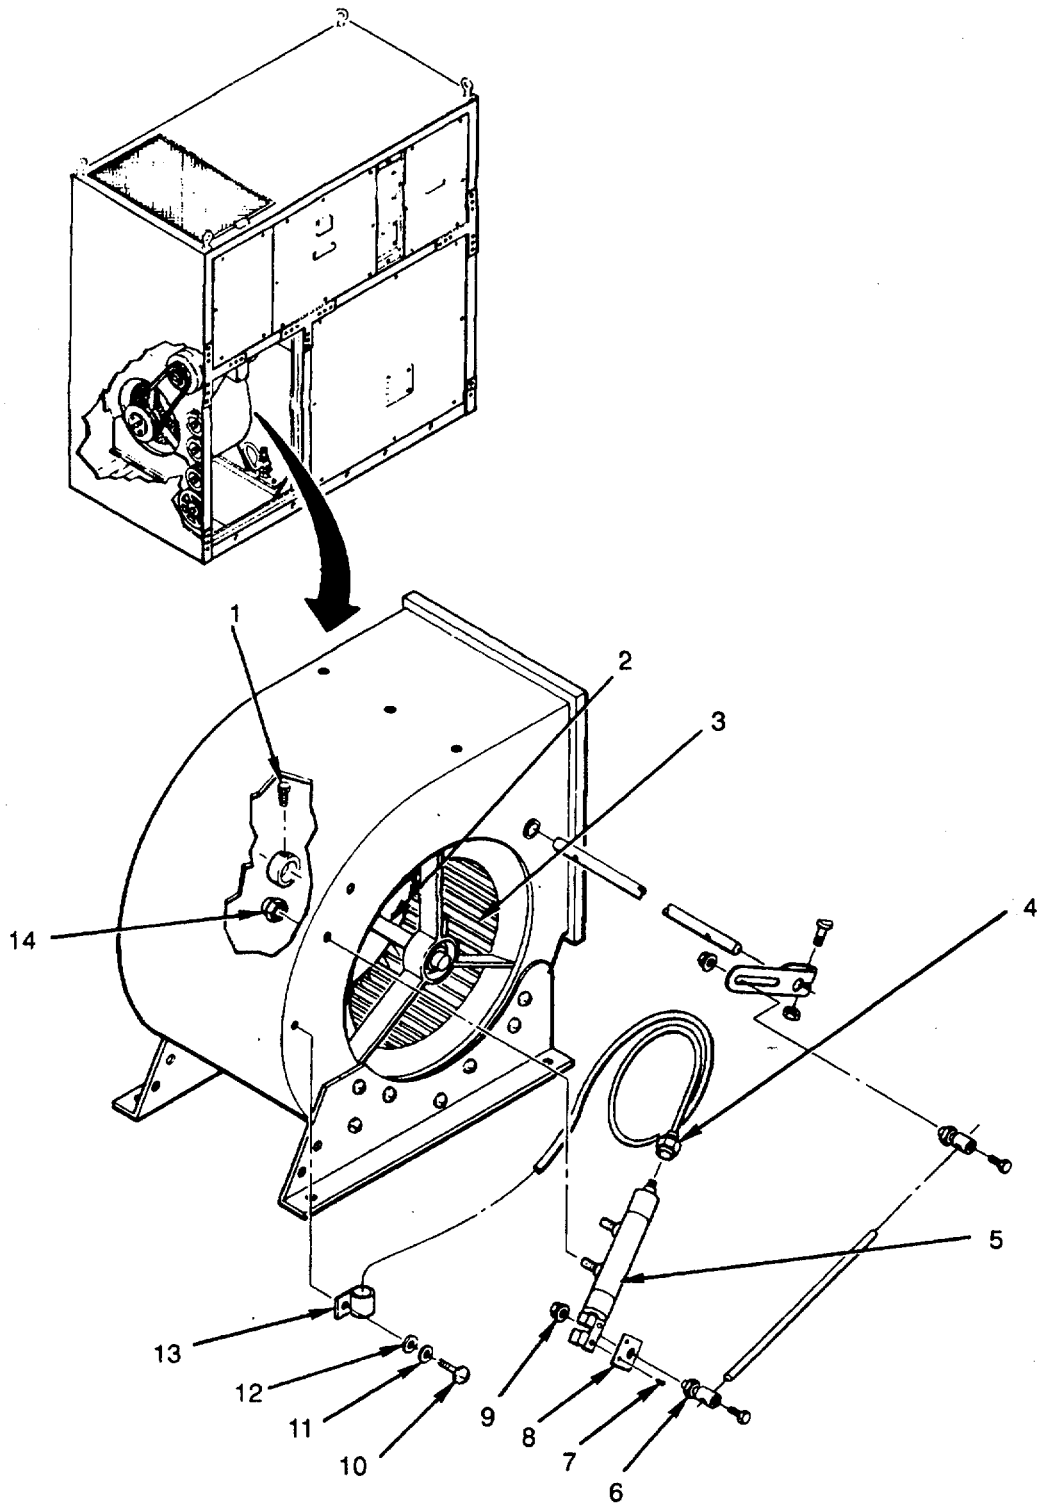

Figure 5-30. Condenser Fan Damper Actuator
1. Check for damaged or missing parts (see Figure 5-30).